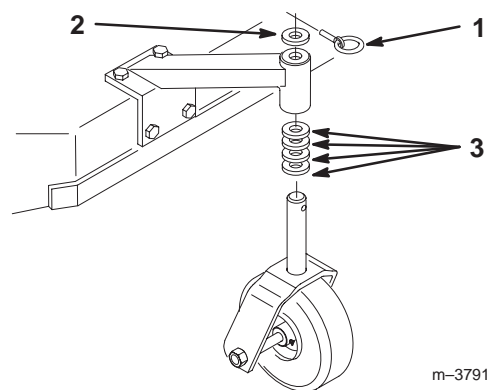

Figure 21
1. Using the height-of-cut chart, adjust the caster spacers to match with the axle hole selected (Fig. 21).
2. Remove clevis pin, slide castor from support and change spacers(Fig. 21).
3. Install castor in support and insert clevis pin(Fig. 21).